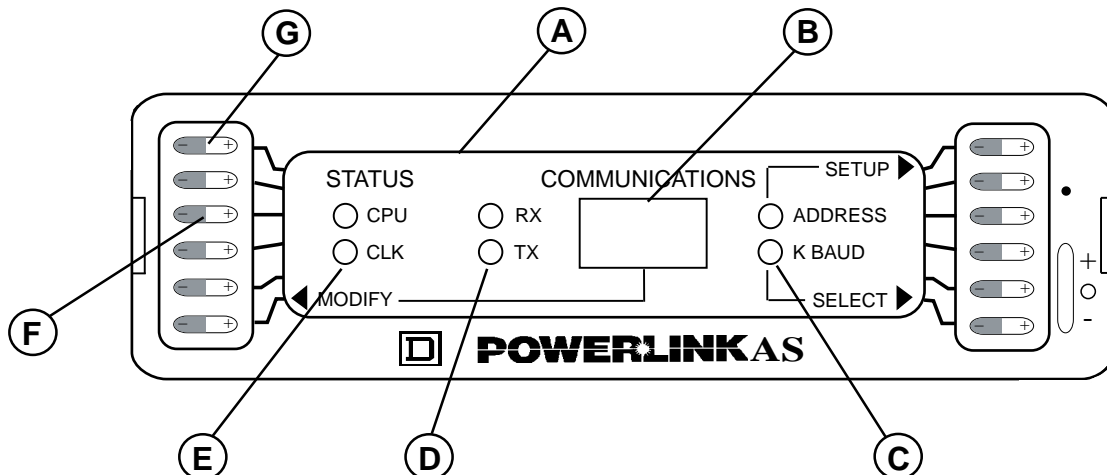

Figure 5
The control module (figure 5) front panel (A) has two main headings: status and communications.